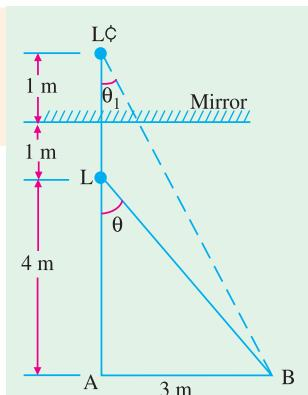

Fig. 49.12
**Solution.** The lamp and mirror arrangement is shown in Fig. 49.12. The lamp  $L$  produces an image  $L'$  as far behind the mirror as it is in front. Height of the image from the ground is  $(5 + 1) = 6\text{m}$ .  $L'$  acts as the secondary source of light and its candle power is  $= 0.9 \times 100 = 90$  candlea.